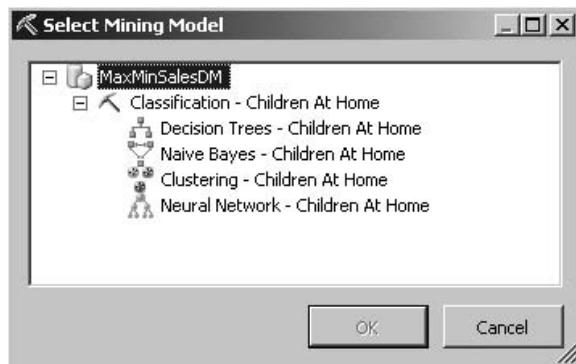

Figure 15-12 The Select Mining Model dialog box
6. Click Select Model in the Mining Model window. The Select Mining Model dialog box appears, as shown in Figure 15-12.